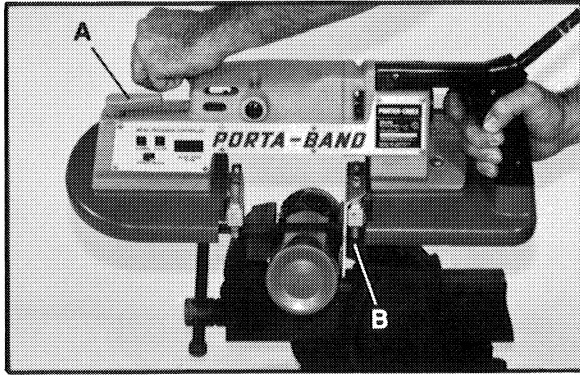

Fig. 4
TO REMOVE BLADE - Turn handle (A) Fig. 4, clockwise to release tension on the saw blade. Remove the blade, first from the pulleys and then from the blade guide.
Turn handle (A) Fig. 4 counterclockwise as far as it will go. This reinstates tension on saw blade.
3. Hold the saw as shown in Fig. 4 with the work stop (B) contacting the work and blade teeth clear of the work.